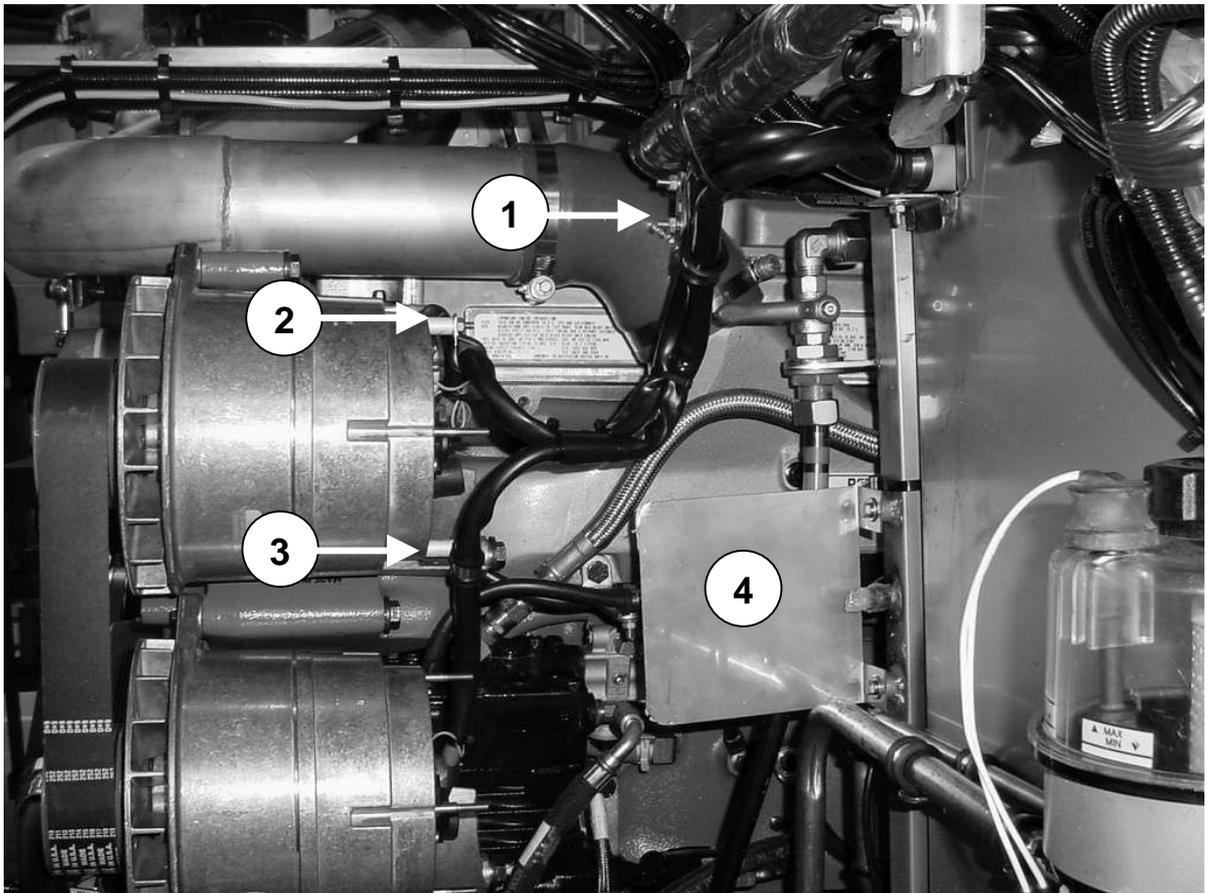

Figure 2: Proper routing of alternator cables and location of heat shield (HVAC compressor not shown):
- 3) Check the B+ harness installation to comply with the recommended one shown in Figure 2. Cables should be installed free of strain and be supported only by rubber insulated clamps. Wiring should not be allowed to contact anything that might cause damage to it.